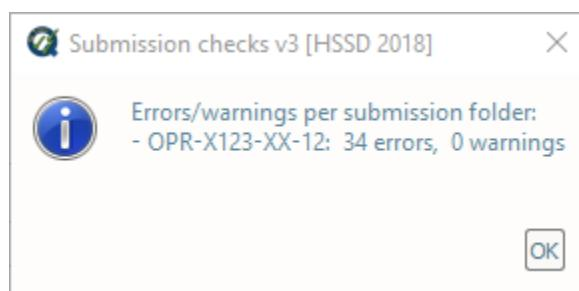

Fig. 2.53: The **Submission check** output message.
- After computing, the output window opens automatically, and the results are shown (Fig. 2.53).